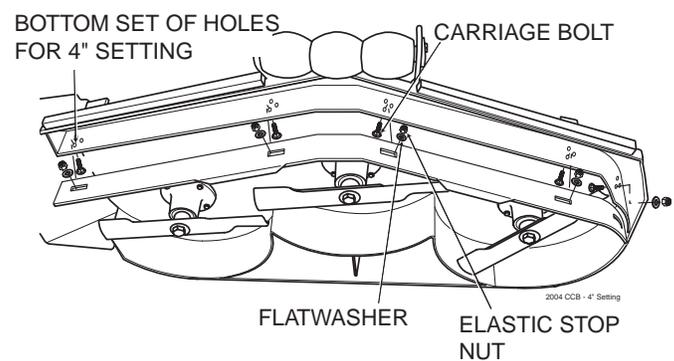

Figure 6-11. 4" Custom-Cut Baffle Position
- C. 4" Position - baffle is installed using the bottom set of holes on the front baffle welded inside the cutter deck. (See Figure 6-11). Placing the baffle in the 4" setting will enhance fall cutting (leaf pickup) and reduce cutter deck "blowout".